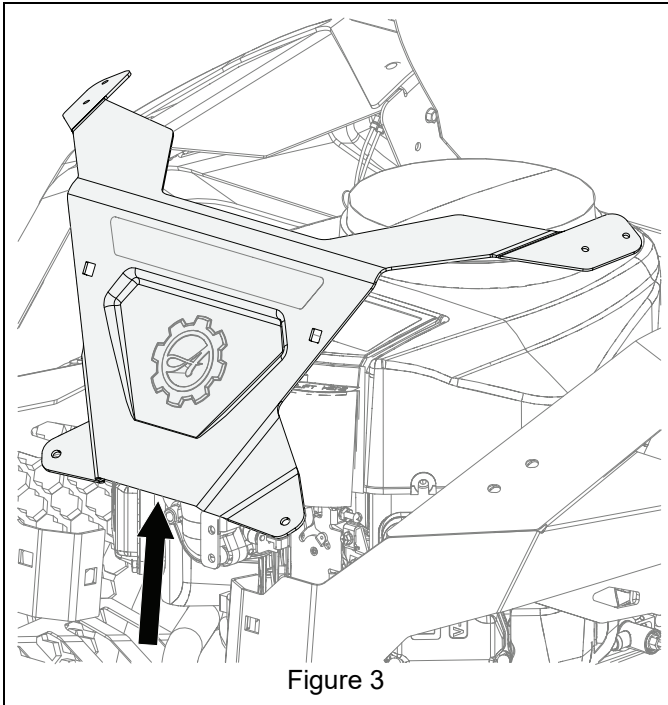

Figure 3
- Carefully remove wrap from unit. Use care to not scratch painted surfaces. See Figure 3.